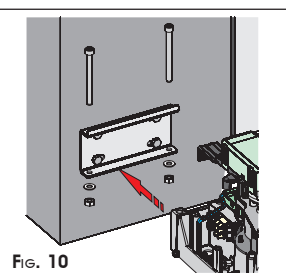

FIG. 10
- ④ Position the operator on the bracket you have just secured, using two M8x100 screws and the relevant nuts - supplied (Fig.10).
- ⑤ Set the operator for manual operation, see paragraph 7.